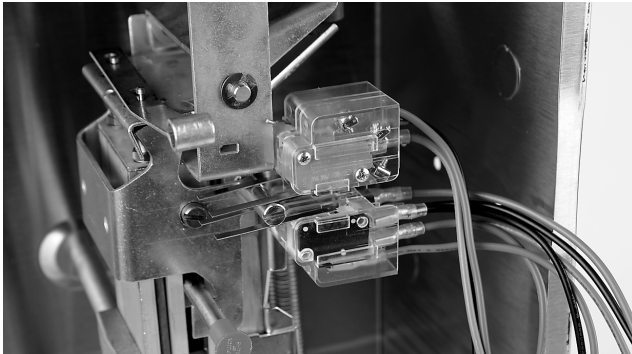

FIGURE 5
6. Slide switch cover onto the lower tab of the switch mounting bracket, ensuring that the tab slides into the channels on the back side of the switch cover, until the screw holes line up. See Figure 5.